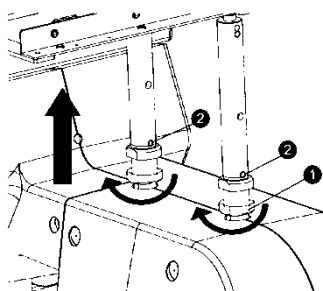

Figure 15
4. Remove the lock nuts from the thread stand columns. See Figure 15.